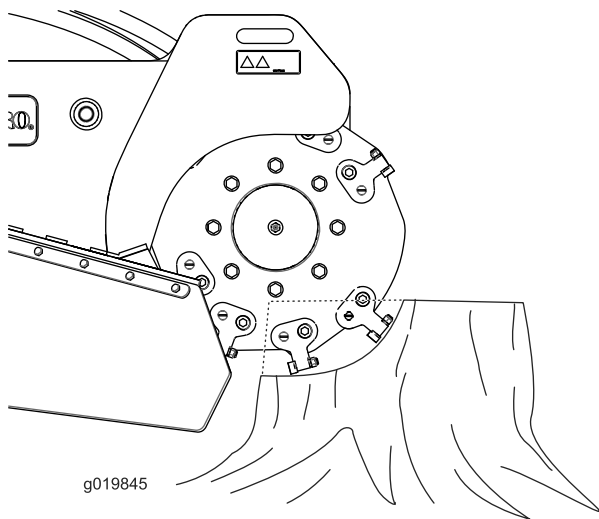

Figure 21
4. Using the grinder control lever, swing the grinder slowly across the face of the stump, cutting away a swath of chips (Figure 21).
- Cut the edges of the stump for more efficient grinding. Once your cutting swath is close to 1/4 of the wheel diameter (Figure 21), lift the grinder, move forward and begin cutting on the edge again.